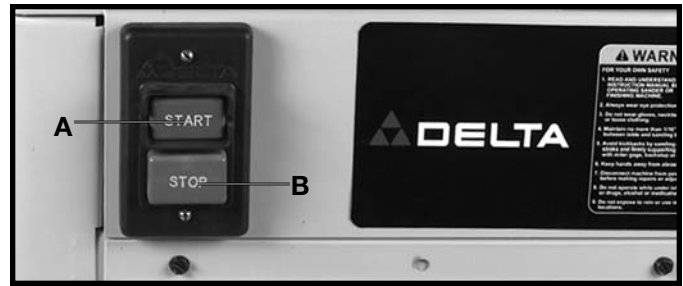

Fig. 10
To start the machine, push "ON" button (A) Fig. 10. To stop the machine, push "OFF" button (B).